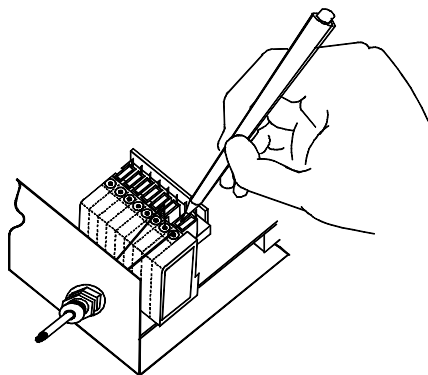

Figure 7 - System cable connections to the junction box
- Using a device such as a screwdriver, push down on the orange lever directly above the clamp (see Figure 7).